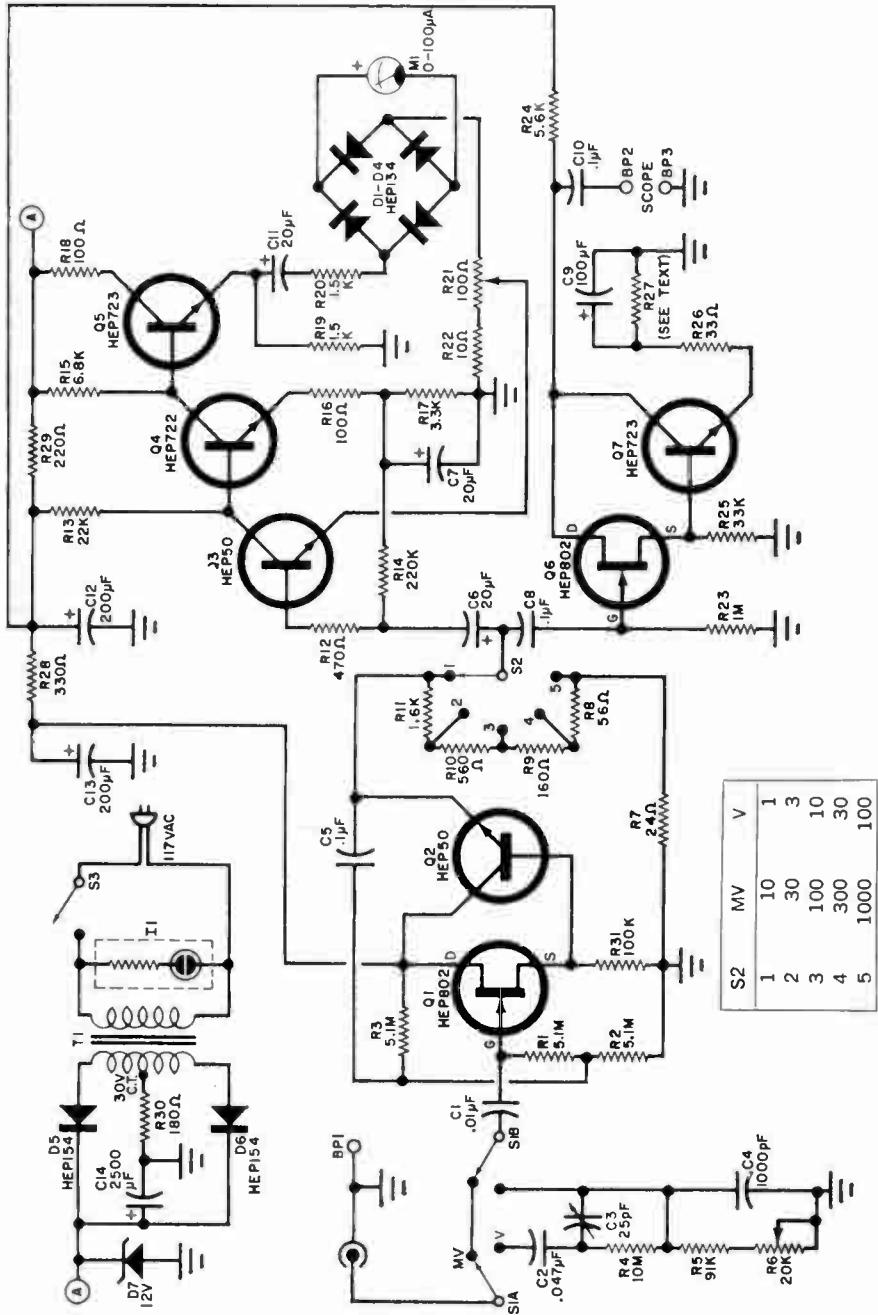

Fig. 1. Function switch S1 allows user to measure 0-1000 mV or 0-100 volts rms in alternate positions. Range selection is accomplished with switch S2.
connect the spiker to the generator and attach a short antenna to the spiker output. Set the front panel switch to 1 MHz (1  $\mu$ s). This will produce a train of "birdies," 1 MHz apart. With the receiver tuned to WWV on 5, 10, or 15 MHz, the crystal oscillator in the generator can be trimmed to the exact frequency. Use other dial positions and the calibrator will generate the frequencies shown in Fig. 1. Suitable selection of frequencies will permit a very accurate determination of the frequency of an incoming signal.
The combination of the unit shown in Fig. 1 is 1/5-4. This means that, to open the lock, switches 1 and 5 must be pressed simultaneously, followed immediately by the pressing of switch 4. Most people find that it is quite easy to press the two initial switches at the same time with their index and middle fingers. Since these two switches are wired in series, they must be closed at the same time for a fraction of a second in order to enter the first part of the combination. Then when the 4 switch is pressed, the solenoid on the lock is energized.
**Construction.** Using the circuit shown in Fig. 1, the prototype was built in a  $2\frac{1}{8}'' \times 3\frac{1}{4}'' \times 1\frac{1}{8}''$  molded plastic box. This makes the unit as small as possible for use in a limited space. However, a larger enclosure can be used. The circuit can be located some distance away from the key panel and the solenoid latching mechanism.
Fig. 1. If desired, circuit can be extended by adding more switches in parallel with S2, S3, and S6; in series with S1 and S5; or in series with S4. To change combinations, rearrange the switch positions on door or plate.
This is the principle behind the "High-Input-Resistance AC Millivoltmeter" described in the following pages. The schematic diagram of the mV Meter is shown in Fig. 1. It has a 100-megohm input resistance for minimum loading effect. It is capable of measuring ac voltages from as low as 0.2 mV to as high as 1000 mV (1 volt) rms. In the mV range, the input resistance of the mV Meter is 100 megohms, while in the V range, input resistance is a standard 10 megohms.